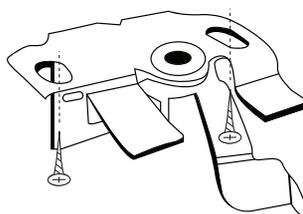

FIG. 2
- Universal brackets allow for either face or recess mount installation (FIG.2)